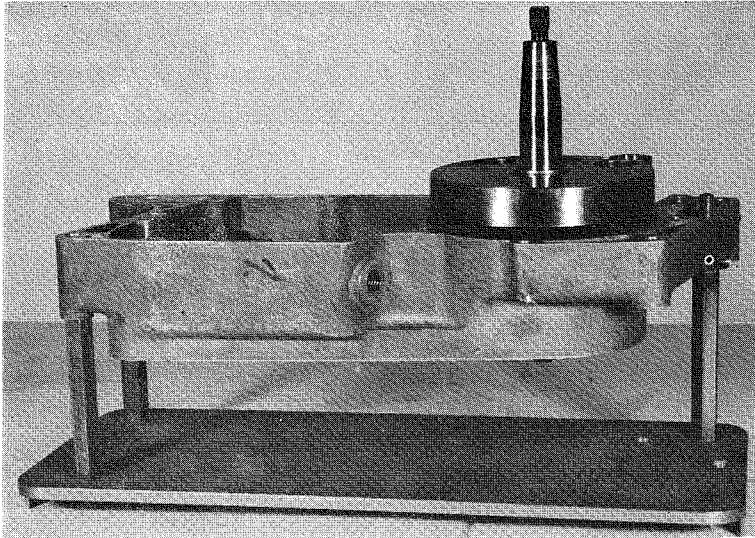

Fig. 3
3. Place the left-hand half of the crankcase in the assembly stand, No. 15 19 243-01. See Fig. 3.